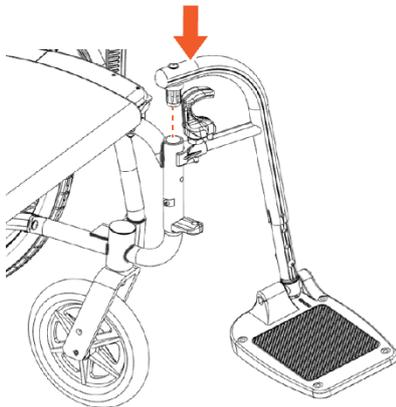

Figure 4.13
1. Turn the swing-away footrest to the side, and insert the swing-away footrest into the wheelchair frame. (See Figure 4.13.)